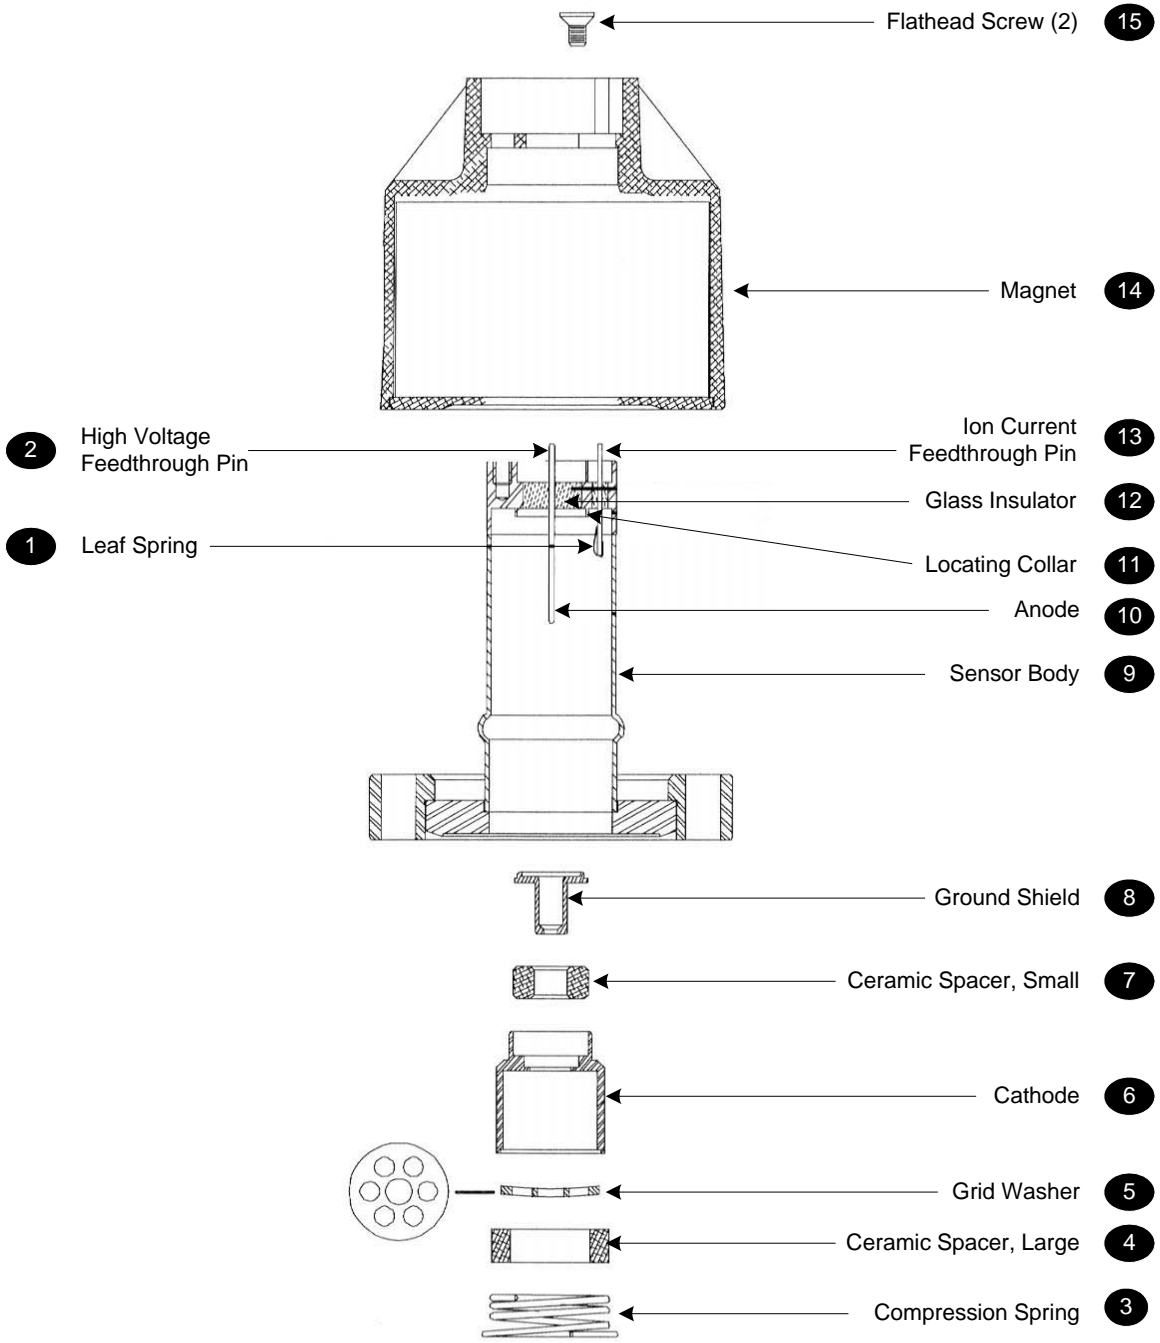

Figure 11-4 Exploded View of the Series 423 I-Mag Cold Cathode Gauge Sensor
4. Loosen the two flat head screws (15). *See Figure 11-4.*
5. Remove the magnet (14).
6. Using the smooth-jaw, needle-nose pliers, firmly grab the compression spring (3) at the tip closest to the flange.
7. Pull on the compression spring (3) while rotating it to free it from the formed groove of the sensor body (9). Continue to pull until the compression spring (3) is completely free.
Pin numbers are embossed on the base. The resistance across the pins should be within the ranges listed in Figure 11-4. If resistance across pins 1 and 2 is not approximately 20 to 30 Ω or if other listed resistance values are greater than the listed values, the sensor tube is defective.